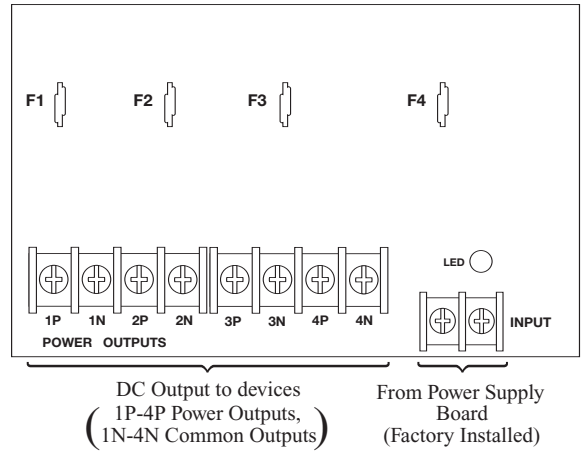

Fig. 3a
- b. For other Power Distribution Models connect devices to be powered to terminal pairs 1 to 4 marked [1P & 1N thru 4P & 4N] (*Fig. 2a & 2b, pg. 6*) or 1 to 8 marked [1P & 1N thru 8P & 8N] (*Fig. 3a & 3b, pg. 6*) carefully observing correct polarity.
6. For Access Control applications, batteries are optional. When batteries are not used a loss of AC will result in the loss of output voltage. When the use of stand-by batteries is desired, they must be lead acid or gel type. Connect one (1) 12VDC battery to the terminals marked [+ BAT -] for 12VDC operation. Use two (2) 12VDC batteries wired in series for 24VDC operation.